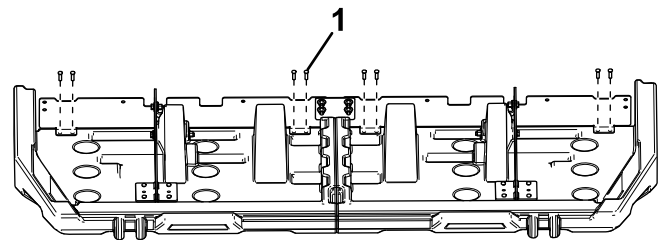

Figure 11
- Slide the outer material shields forward until they contact the protrusions on the underside of the cover, then secure them using 8 lag screws (Figure 11).